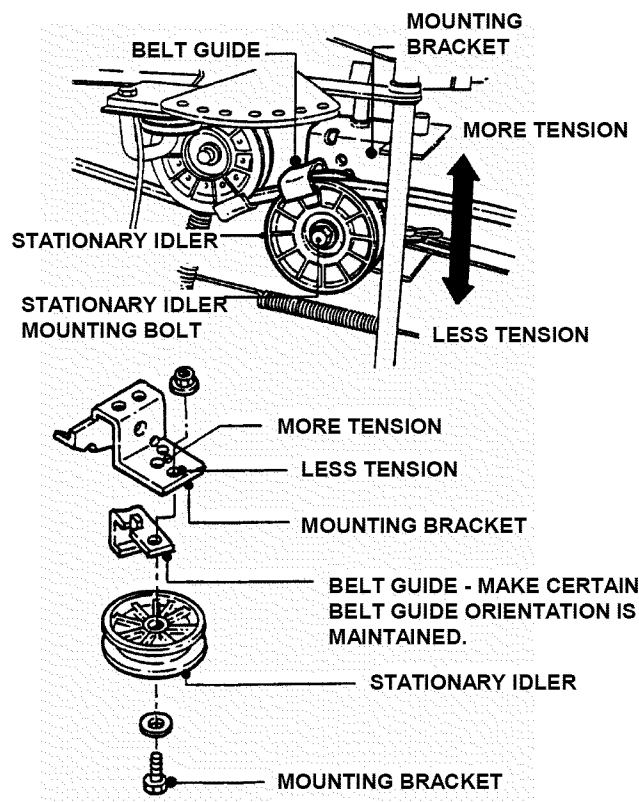

FIGURE 4.12
**NOTE:** Note the orientation of belt guide and make certain it remains in the same orientation after moving idler. Should less tension be required move stationary idler towards right side of tractor. See Figure 4.12.